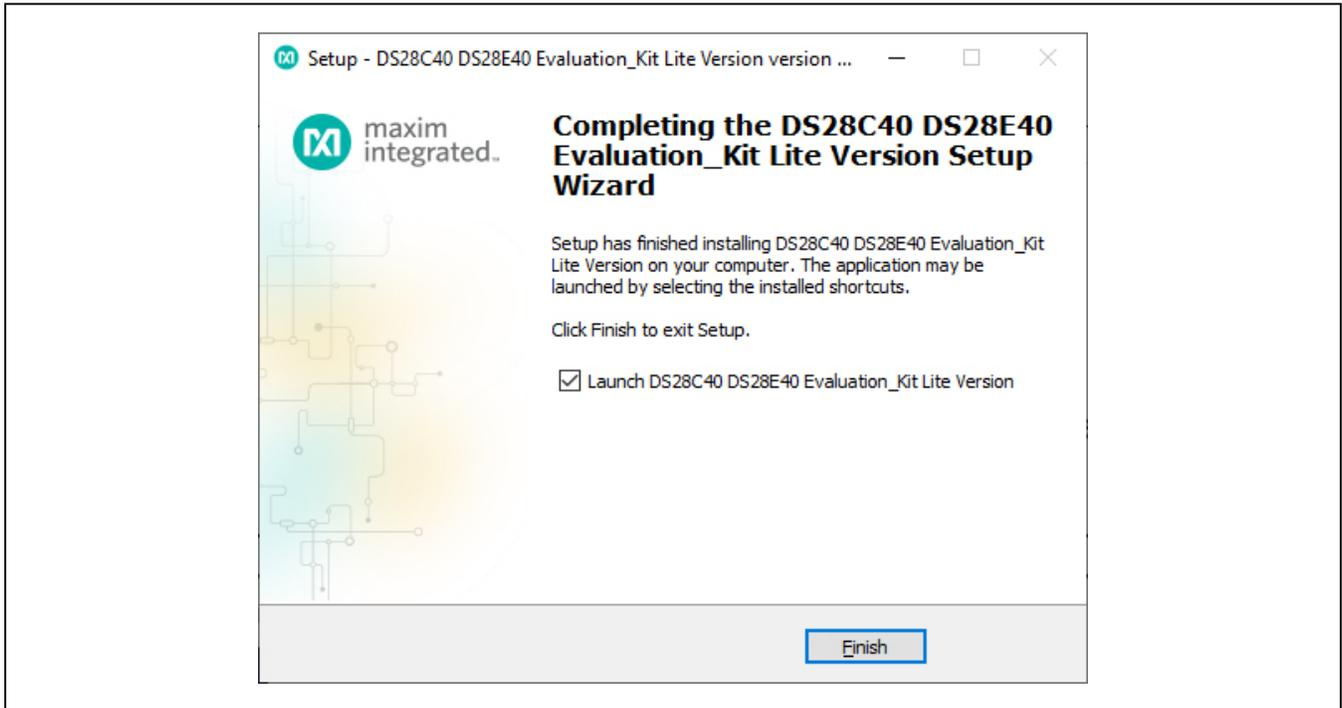

Figure 5. Run Software After Installation
5) Wait for the Installation to complete and launch program if desired after completion (Figure 5).